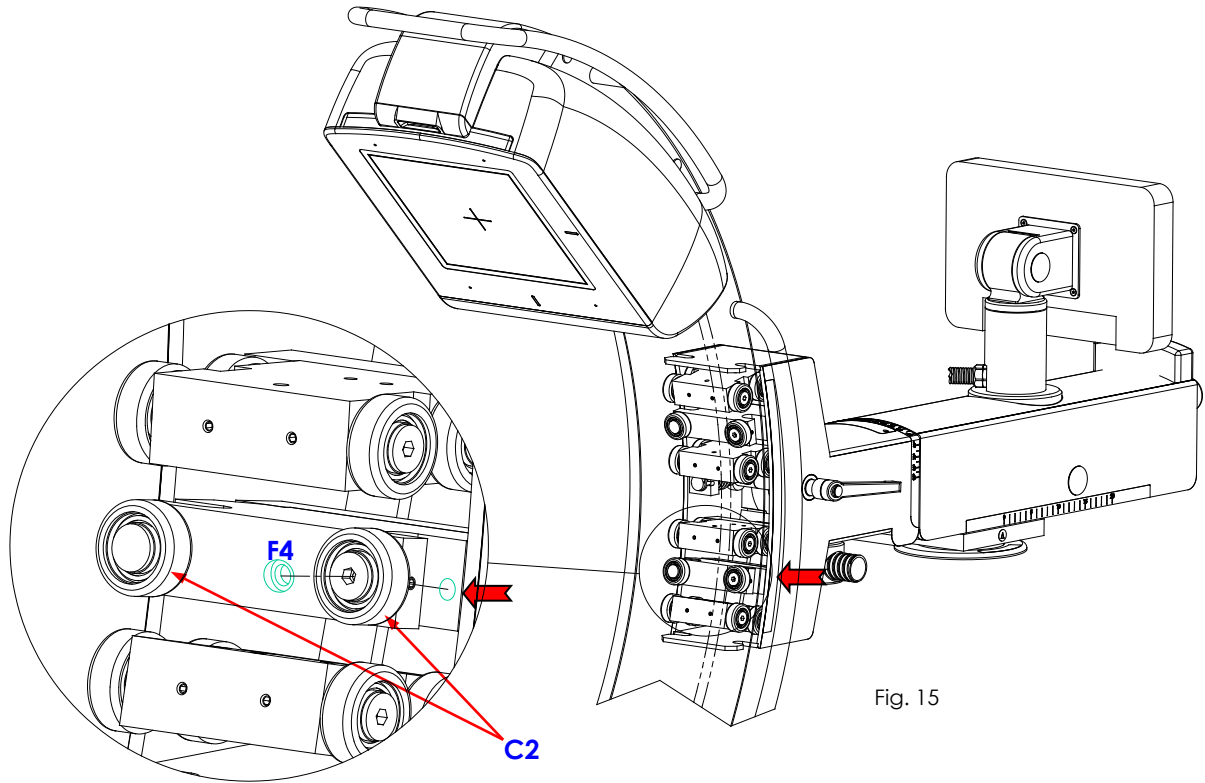

Fig. 15
- Take the C-arm to the position shown in Fig.15 in order to align one of the holes (F4) with the eccentric pin on one of the bearings (C2).